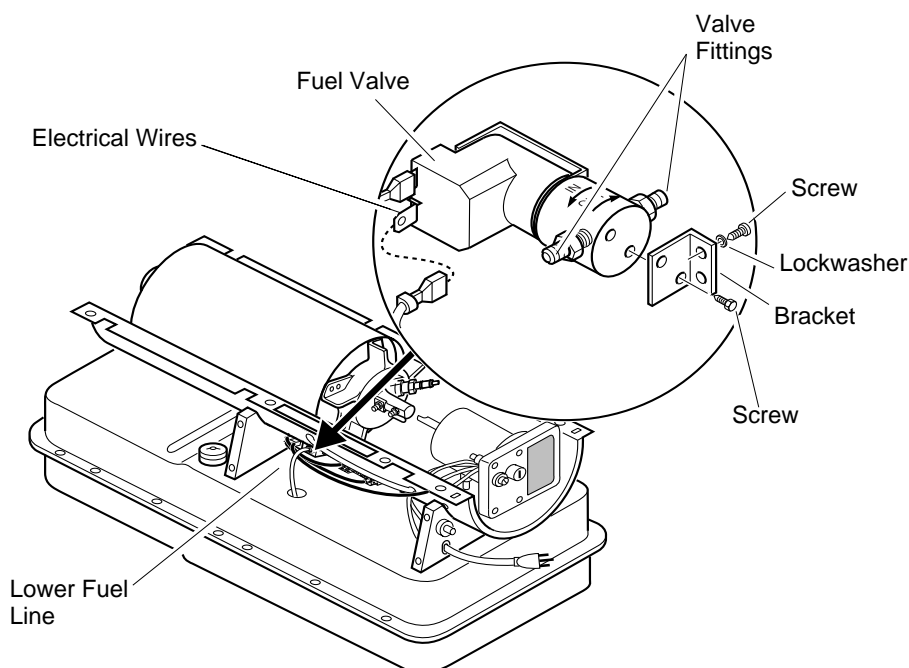

Figure 11 - Fuel Valve Replacement
3. Pull lower fuel line off the fuel valve fitting (see Figure 11).
4. Disconnect red and white wires from fuel valve. (see Figure 11).
5. Using 1/4" nut driver remove 2 screws/lockwashers holding fuel valve and bracket to lower shell (see Figure 11). Save these screws/lockwashers.
9. Connect red and white wires (polarity not important). Connect upper and lower fuel lines to fuel valve (see Figure 11).